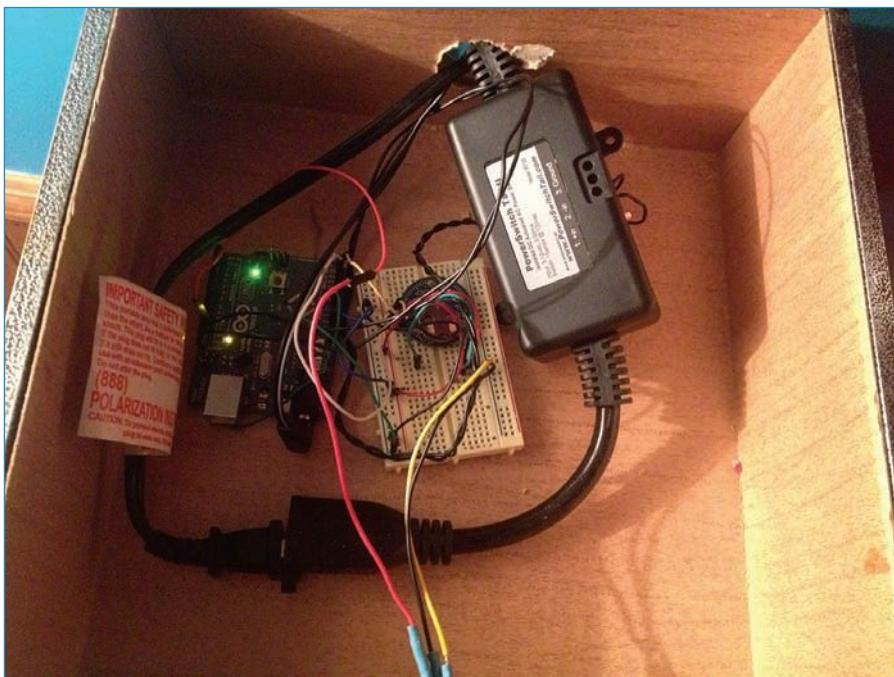

FIGURE 12.14 The guts of the Lava Lamp Buddy.
6. Pass the lava lamp's power plug through the hole in the back of the cigar box so it can plug into the PowerSwitch Tail's female end. It should look more or less like Figure 12.14.